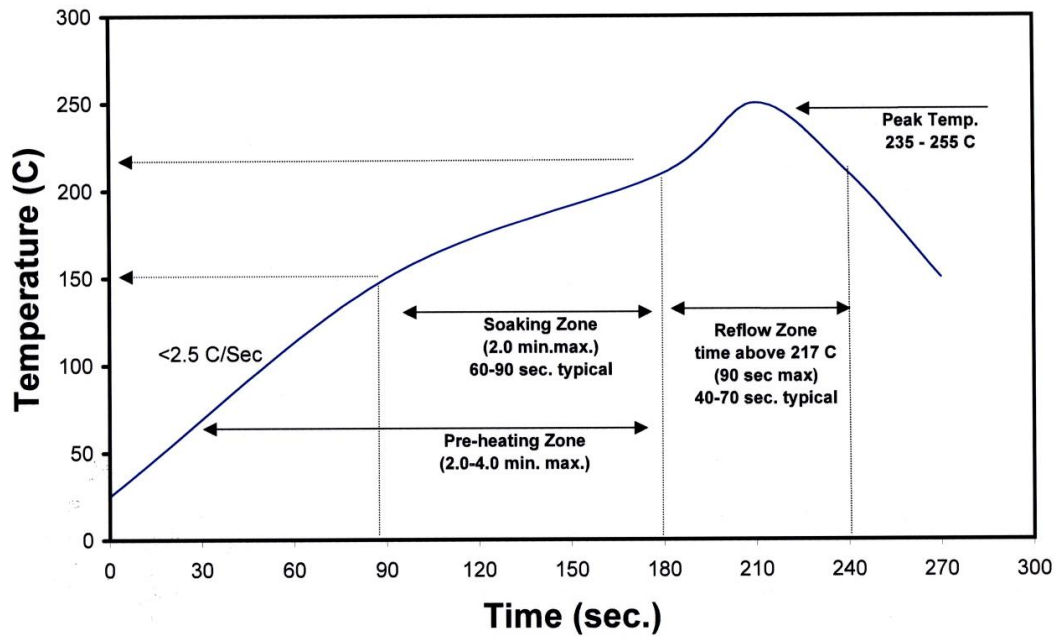

Figure 3: Reflow soldering profile for lead free soldering
4. Solder conditions per JEDEC 020D. See Reflow Soldering Profile Figure 3.